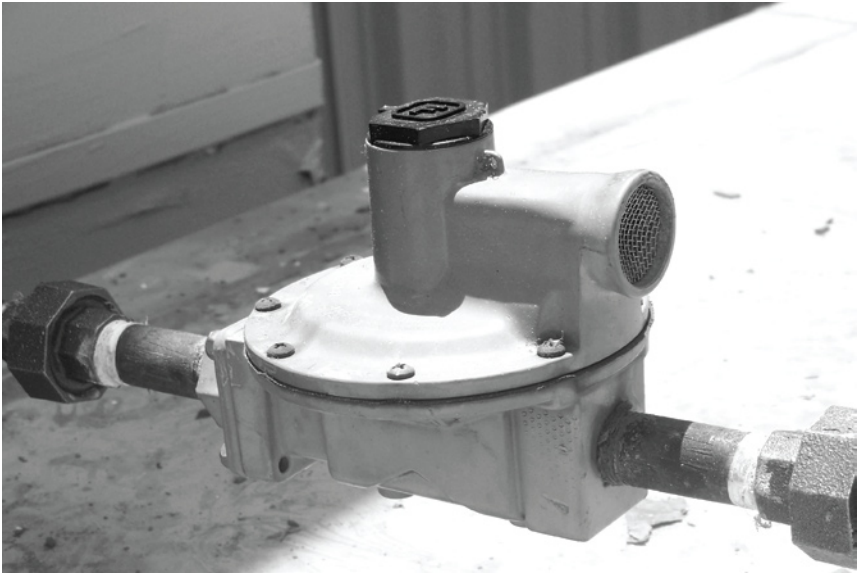

Figure 10. *Improper Installation: Horizontal Regulator Installation Without Vent Cover*
- Vent pointing horizontal unless the regulator is covered with a protective cover or vent shelter. Without a protective cover, water could get inside the regulator and freeze or cause corrosion of internal parts. See Figure 10.